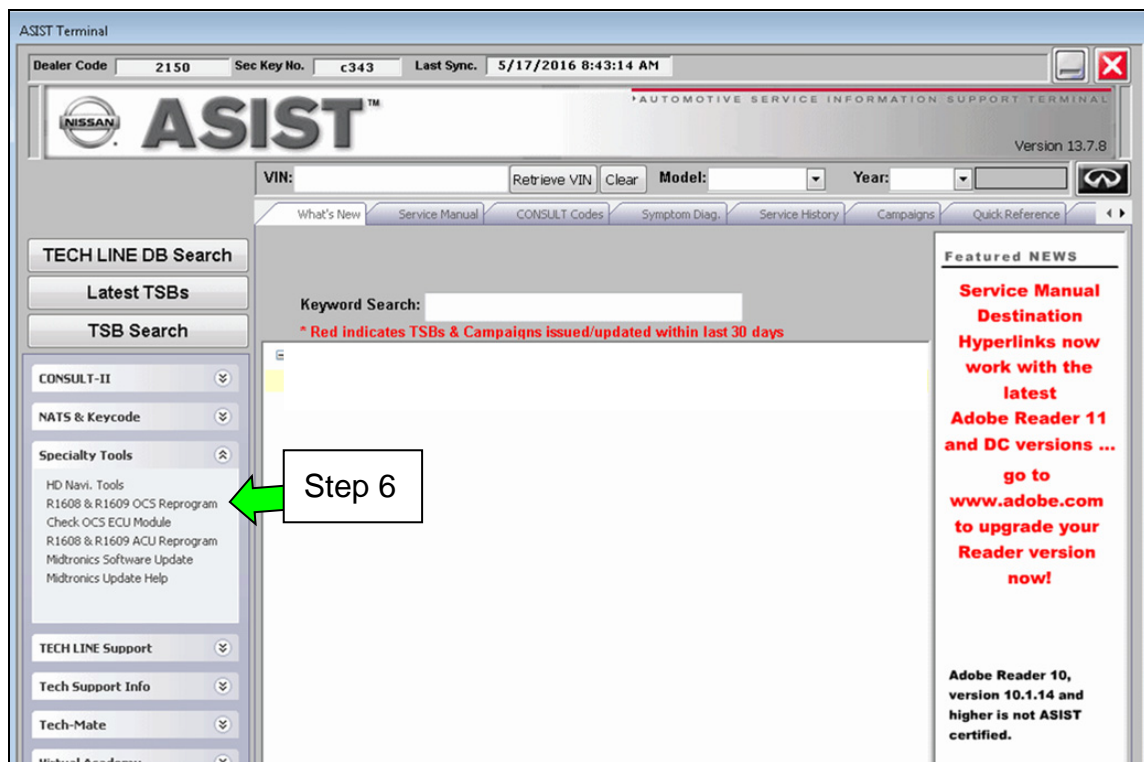

Figure 11
6. Select “R1608 & R1609 OCS Reprogram” on ASIST under Specialty Tools (Figure 11).